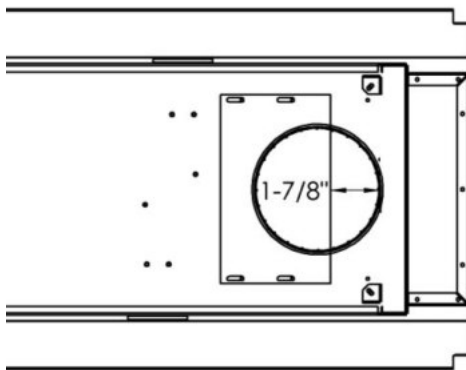

Fig.3
3. For Vertical Venting 20-30 feet in height, the Flue Restrictor should be open 1-7/8" from the back of the Flue (**Fig. 3**).